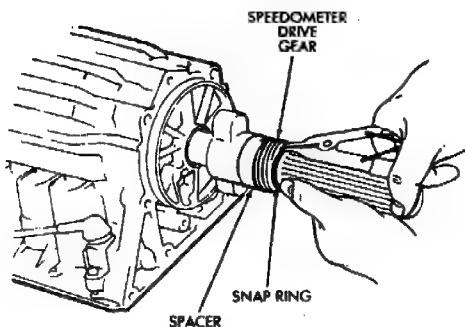

Fig. 64 Installing Spacer And Speedometer Drive Gear
(87) Install spacer and speedometer drive gear on output shaft. Then install retaining snap ring (Fig. 64).